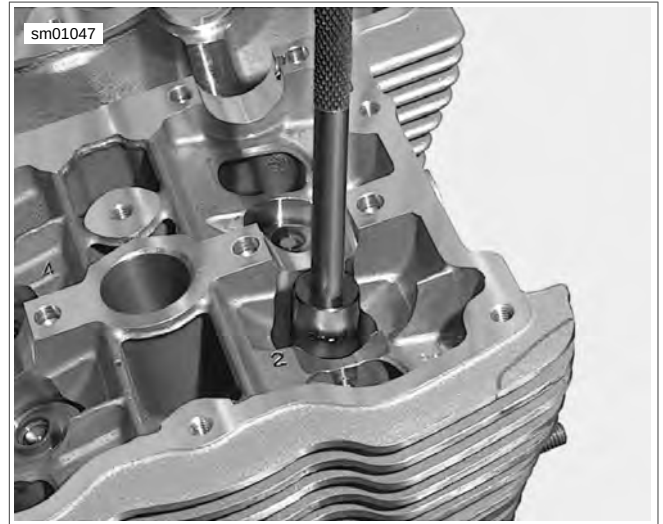

Figure 3-64. Valve Guide Installation
10. See Figure 3-64. Use VALVE GUIDE REMOVER/INSTALLER (Part No. HD-45320) to install valve guide at correct height.